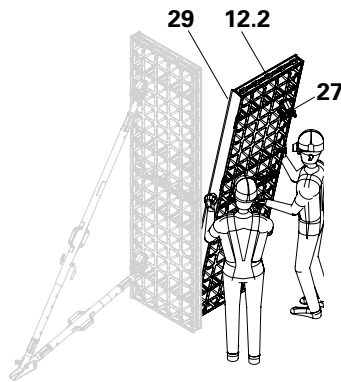

Fig. C1.05
6. Connect the second panel unit to the first panel unit using the DUO corner connector (**23**). (Fig. C1.05 + C1.06)